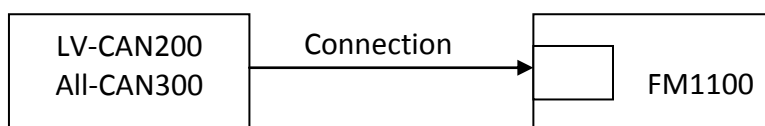

Figure 57 Connect adapter LV-CAN100 to FM1100
SCAN function – is in use when FM1100 is connected to CAN adapter (Figure 57), then wait 10s (Note, that car engine must be started), disconnect adapter from FM1100, and connect PC USB cable to FM1100 Device (Figure 57). It is very important not to disconnect FM1100 from power source during this operation, because if FM1100 is reconnected all received CAN bus data will be lost. FM1100 remembers received data from LV-CAN200 or ALL-CAN300 and at the end of the procedure when “SCAN” button is pressed, user will see all CAN data which is sent by adapter. Enable CAN data which needs send to server and save configuration pressing “Save” button.
1. In car, connect LV-CAN200 or ALL-CAN300 to CAN bus and to the FM1100 device (Figure 57), wait 10 seconds. Note, that car engine must be started.